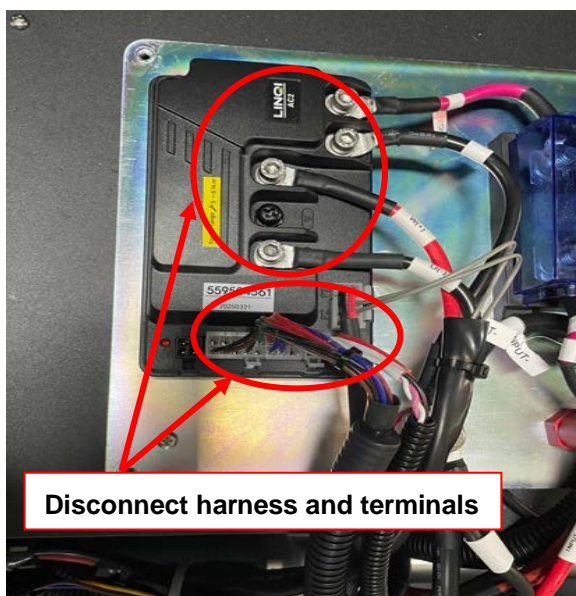

Figure 14
4. Disconnect all harnesses connected to Drive Controller (Figure 14).